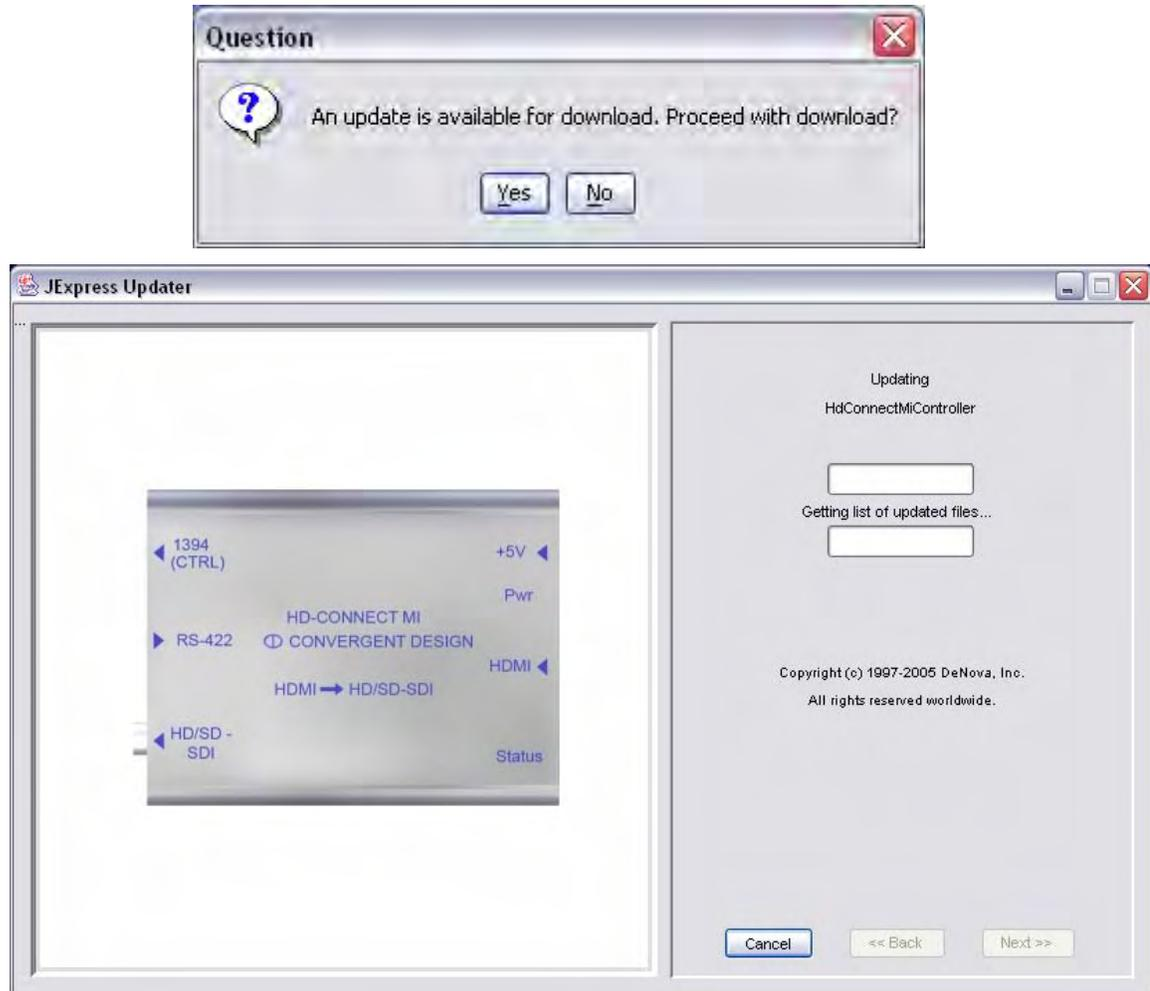

Figure 10 Control Application Asking for Updates
- 3) From the Start Menu, open the newly installed application “HdConnectMiController”. When the application first starts, it will check online for available updates. You will be prompted to update it upon first use, click ok. When the update is finished, you will need to restart the application. Figure 10 shows the dialog window.